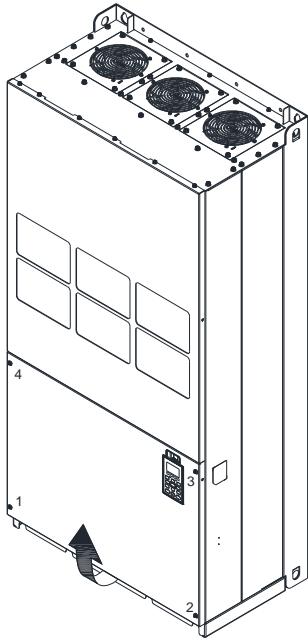

Figure 1
1. Loosen the screw 1-4 and remove the top cover 2. (figure 1). Screw torque: 14-16 kg-cm / [12.2-13.9 lb-in.] / [1.4-1.6 Nm]